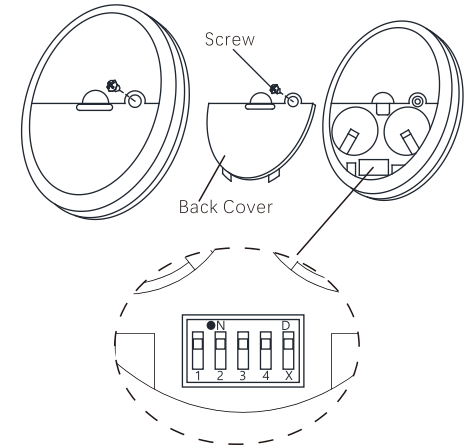

Fig. 20
INSTALLING THE TRANSMITTER BATTERIES (Fig. 20)
Step 1. Remove the back cover of the transmitter and safety screw. (Fig. 20) Install two CR2032 3V batteries (with the + side facing up). Note: To prevent damage to the transmitter, remove the batteries if not in use for long periods of time (several months).
SETTING THE "1-4" FREQUENCY DIP SWITCHES (Fig. 20)
SETTING THE "D/X" LIGHT FUNCTION DIP SWITCH (Fig. 20)